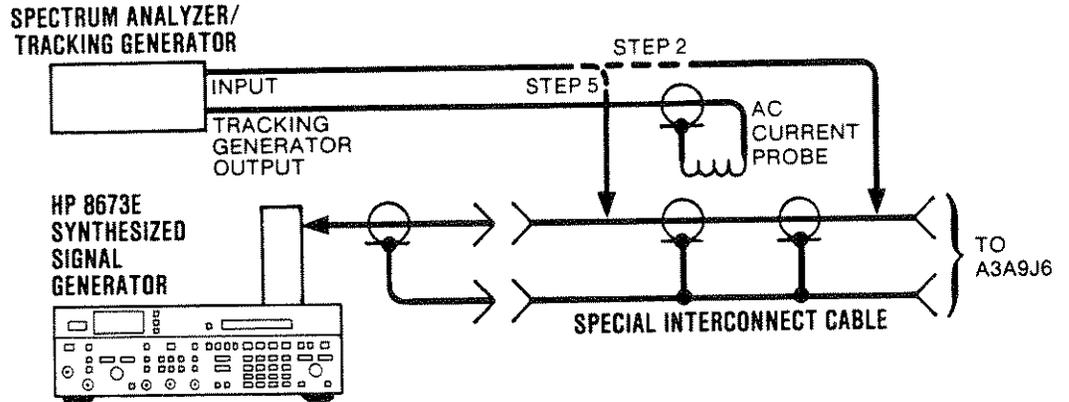

Figure 5-13. YTO Loop Phase Detector Adjustment Test Setup
2. Connect the equipment as shown in Figure 5-13. The special interconnect cable is inserted between A3W16 (gray cable) and A3A9J6 (YTO TUNE 1).